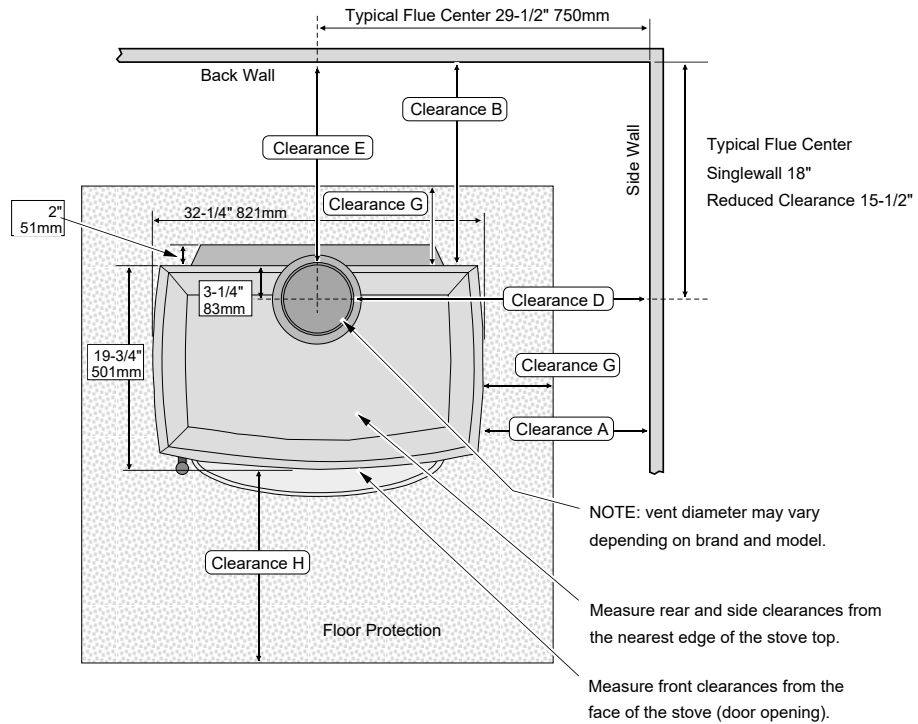
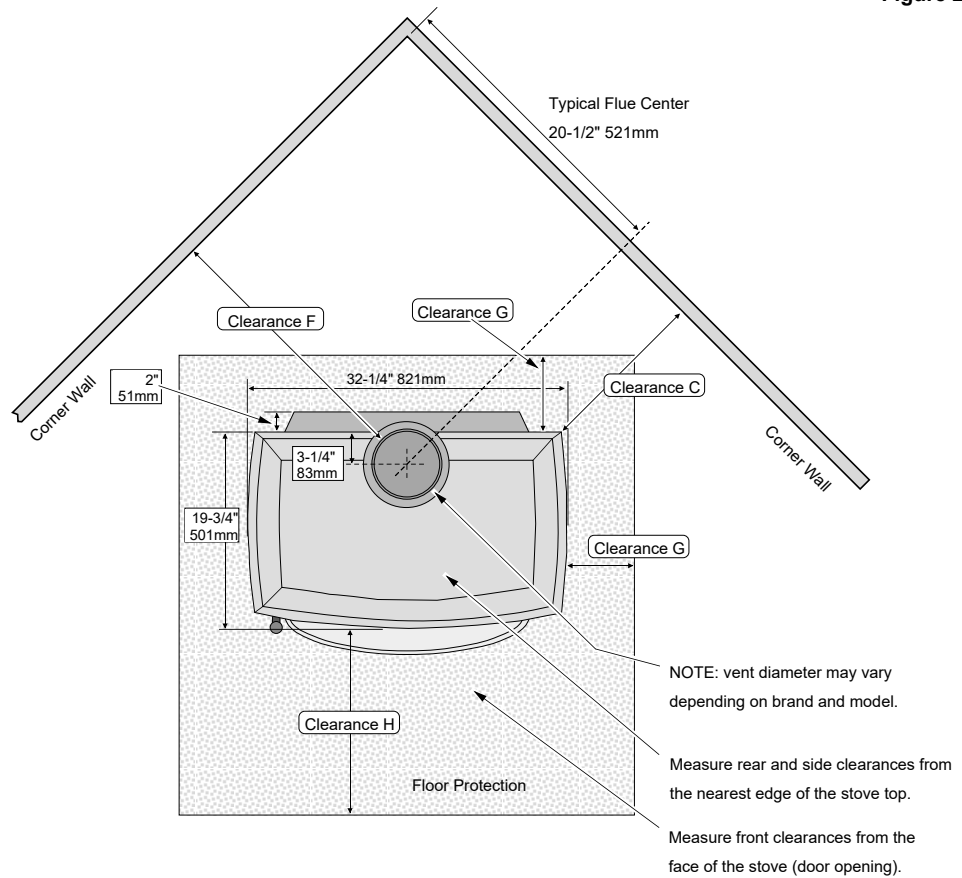

Figure 2
Figure 3
- The following clearances must be met (see Figure 2 and Figure 3):